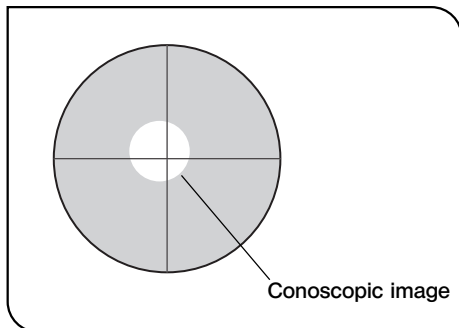

Fig. 26
6. To brighten and facilitate observation of the conoscopic image during optical axis adjustment, rotate the analyzer slightly away from the position of total extinction. (Fig. 26)